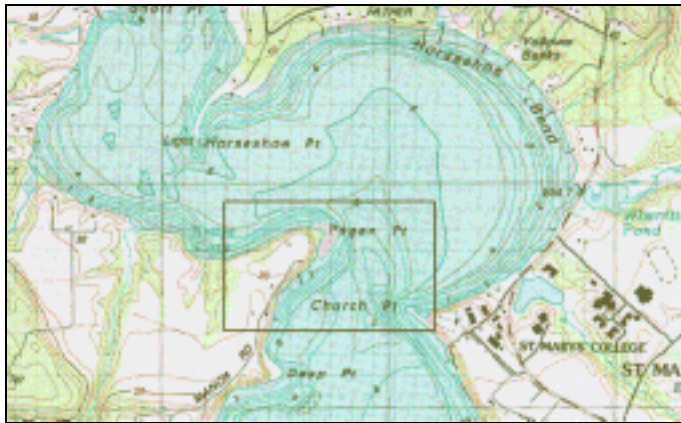

Figure 2-2 The main river portion of the image.
2. Drag a box around the main river portion, as shown in Figure 2-2. The image is somewhat blurry because of the old image sampling.